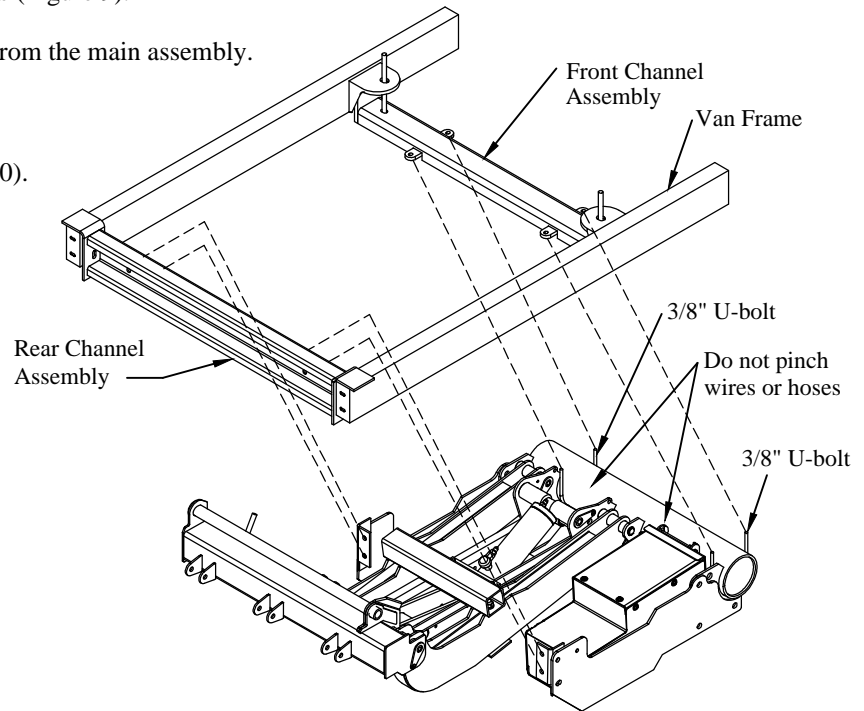

Figure 9: Main assembly position on frame.
- 5. Attach** the 3/8" U-bolts to the front channel assembly with the supplied four (4) flat washers, lock washers and nuts.
- 6. Attach** the rear mounting angles to the rear channel assembly with the supplied four (4) 1/2" x 1-1/4" bolts, lock washers, and nuts (Figure 9).